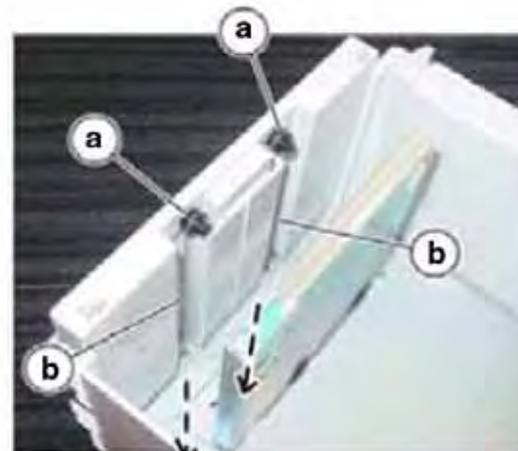

Figure 7 Cable Removal
9. Remove the Cables (Figure 7):
- Remove the Pulleys (2).